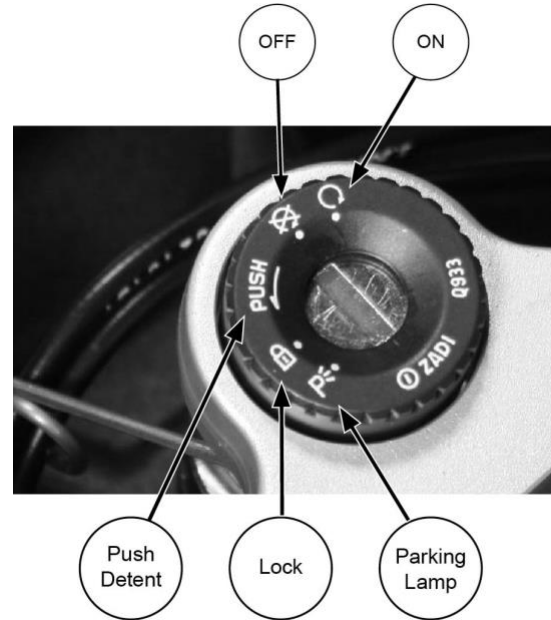

Figure 5. Ignition Switch
1. See Figure 5. Turn the key clockwise to the ON position.
• See Figure 5. Turn the key counterclockwise to the OFF position to shut the motorcycle off.
See Figure 5. When the ignition switch is in the PARKING LAMP position, the running lamps, tail lamps, and instrument cluster are illuminated. The front and rear turn signals can also be activated.
2. See Figure 5. Turn the ignition/headlamp key switch counterclockwise to the OFF position to turn the ignition power completely off.